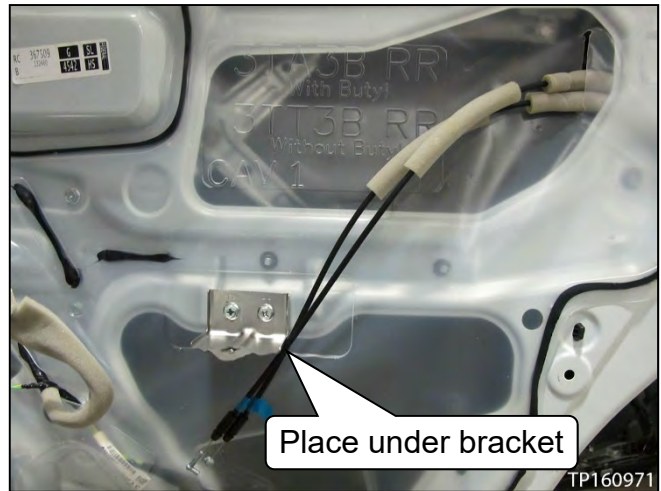

Figure 11
1. Gently place the cables out of the way under the door finisher bracket (see Figure 11).